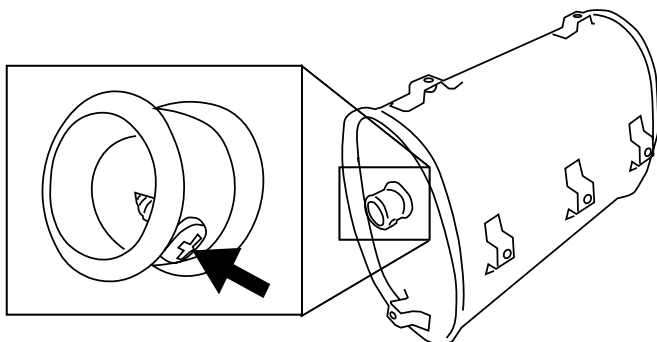

Figure 15: Remove spark arrestor
4. Once the cover is removed, locate the screw on the tip of the muffler and remove. Pull the spark arrestor out of the muffler. (see Figure 15).